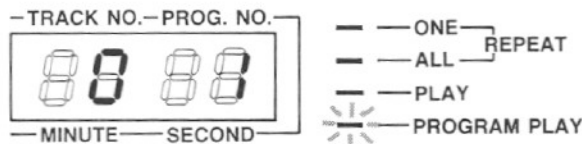

Fig. 2
**Step 1** Press **PROGRAM** button to prepare for storing. The **PROGRAM PLAY** indicator will light. (See Fig. 2)